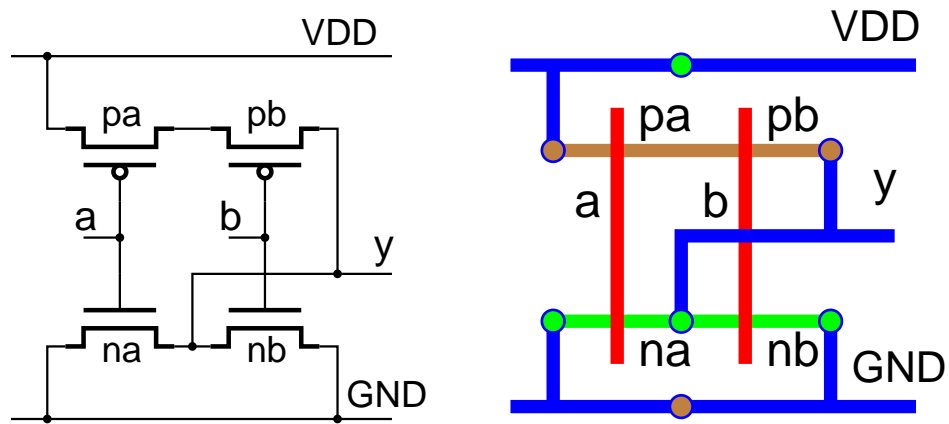

Figure 6: A schematic and a stick-diagram of a two-input NOR gate.
- Create a layout of a new cell called **Unor2** which will be a two-input NOR gate. A schematic and a stick-diagram of such a gate is given in Figure 6.